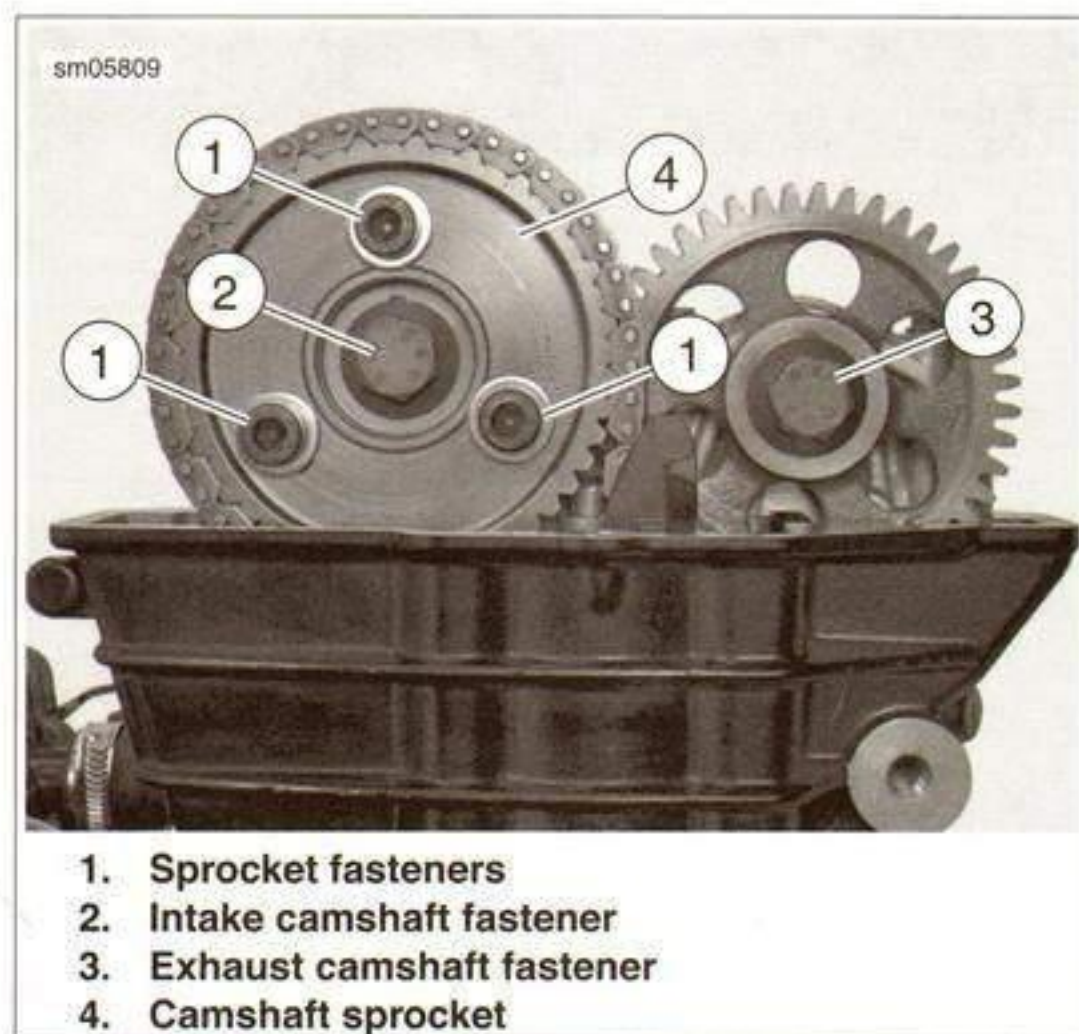

Figure 3-66. Camshaft Fasteners
- See Figure 3-66. If servicing camshaft sprocket (4) or camshafts, loosen sprocket fasteners (1), intake camshaft fastener (2) and exhaust camshaft fastener (3) before camshaft assembly removal. Put shop towel in cylinder to prevent fasteners from falling into engine.